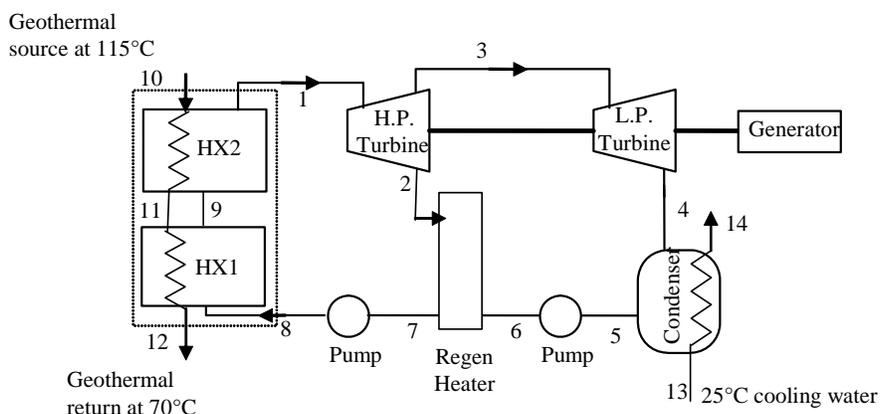

Figure 8.D-1: Geothermal power plant
8.D-1 A geothermal plant is being considered to generate 5000 kW of electrical power with a regenerative Rankine cycle having one closed feedwater heater as shown in Figure 8.D-1. The generator efficiency is 0.92. The working fluid in the power cycle is an organic fluid called R245fa. Geothermal brine (liquid with dissolved salts) is available at 115°C. The brine has a specific heat of 4.25 kJ/kg-K. The turbine efficiencies are 0.82 and 0.74 for the high and low pressure turbine, respectively. The pump efficiency is 0.43 for both the high and low pressure pumps. As shown in the figure, the boiler can be represented as two heat exchangers. One heat exchanger (labeled “HX2” in Figure 8.D-1) uses the incoming brine to boil R245fa at 1125 kPa. The brine exiting this heat exchanger (state 11) is 5°C warmer than the R245fa saturation temperature and it is used in the second heat exchanger (labeled HX1) to preheat the entering liquid R245fa at state 8 to the saturation temperature (state 9). The condenser uses water at 25°C to condense the working fluid to saturated liquid at 30°C (state 5). The interstage pressure, P[2], is to be determined. Pressure losses in the piping may be neglected. R245fa, as implemented in EES, is assumed to incompressible in the liquid state. Consequently, it is not possible to calculate the pump outlet states by assuming the ideal pump is isentropic. Use instead the fact that the minimum pump work per unit mass is the product of the inlet specific volume and the pressure rise. State any other assumptions you employ.